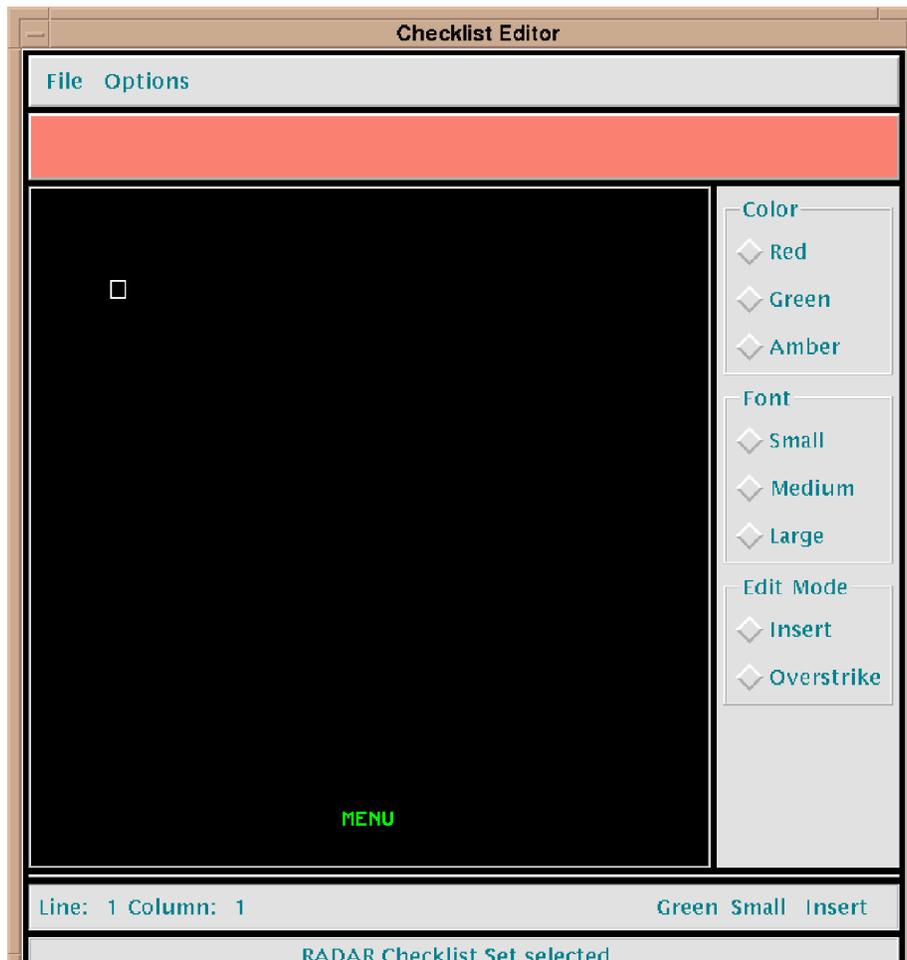

Fig. 41 — New checklist page
- The new checklist page will be blank, with the exception of the word “MENU” at the bottom; this is on the first page of every category in a checklist set. The cursor will be in the first character position of the first line to be typed on the page (Fig. 41).